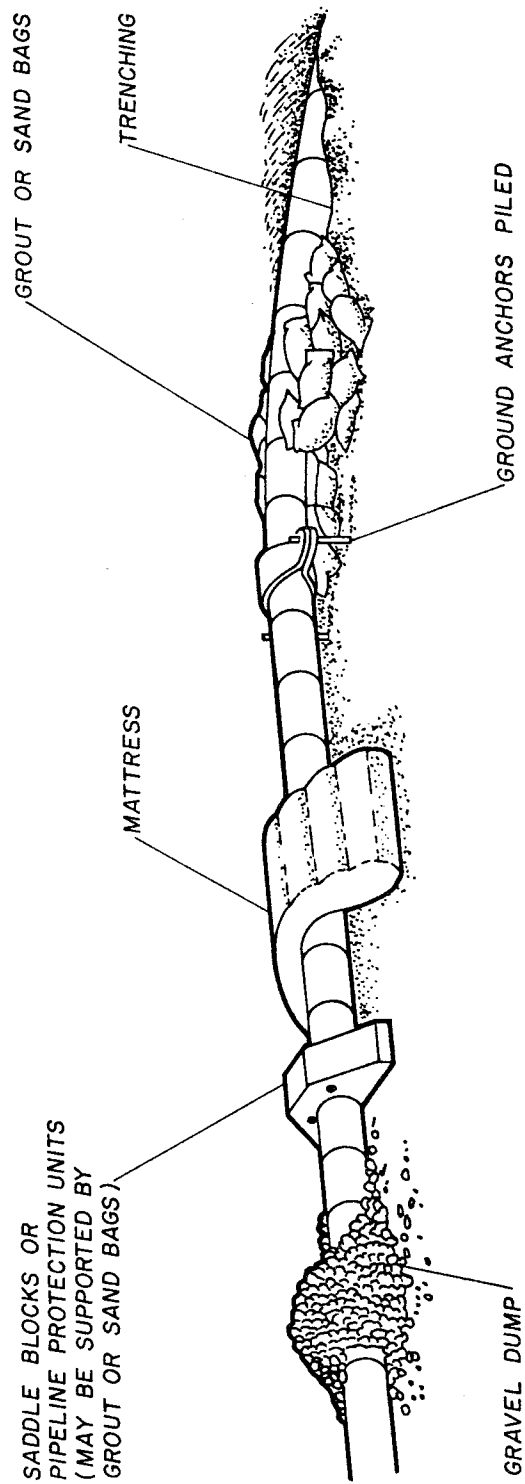

Figure 11: Pipe stabilisation techniques
- MATTRESS** A flexible bag laid over a pipeline then filled with grout to anchor it to the seabed. Refer to Figure 11 overleaf.